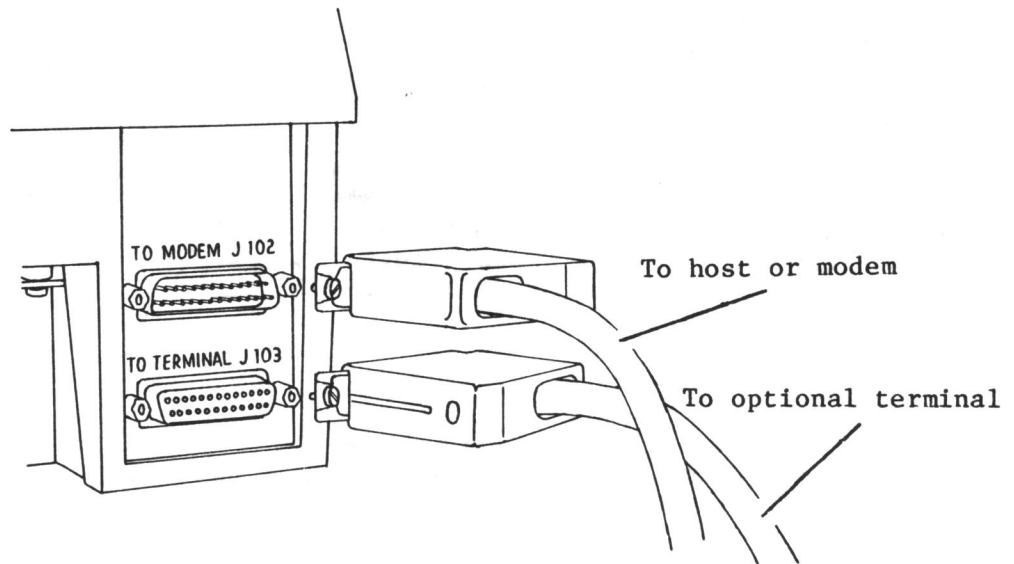

Figure 1-3
- * RS-232-C - Connect the plotter to the terminal via the port labeled "TO TERMINAL J103." Connect the plotter to the host computer via the port labeled "TO MODEM J102" (see Figures 1-3 and 1-4).